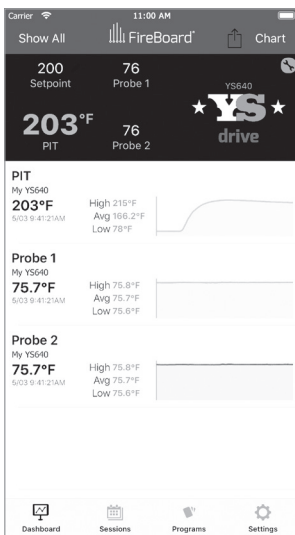

FIG 31
- You can choose between two visualizations of the running temperature data: a basic chart, and a detailed chart. You can toggle between the two by tapping on the word “Chart” or “Detail,” respectively, in the title bar area of the app (FIG 31, 32).